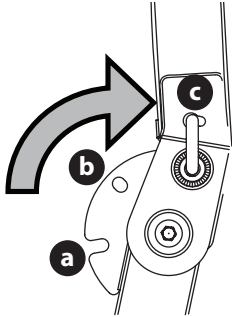

Figure 5
2. Move the ROPS into the desired position (Figure 5).
NOTE: The three positions are TRANSPORT (a) position, TRANSPORT WITH BAGGER (b) position and into the OPERATION (c) position (Figure 5).